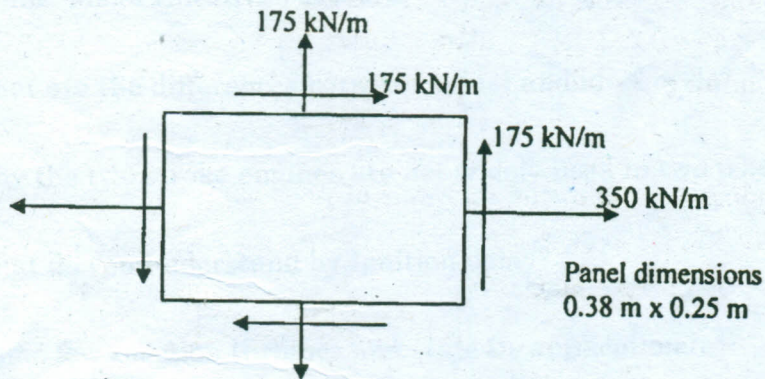

Fig. Q.15 (b)
- (b) A rectangular panel with dimensions as shown in Fig.Q 15 (b) is to be designed. Displacement limits are 0.5% of edge dimensions and  $1^\circ$  shear angle. The fiber volume fraction is 0.6. Assume a factor of safety 2.0 on the specified load. Tensile strength of the ply = 1.52 GPa. Ply thickness is 0.127 mm. The laminate is to be sized such that ply strengths are not exceeded and it should not buckle at the design load. (16)